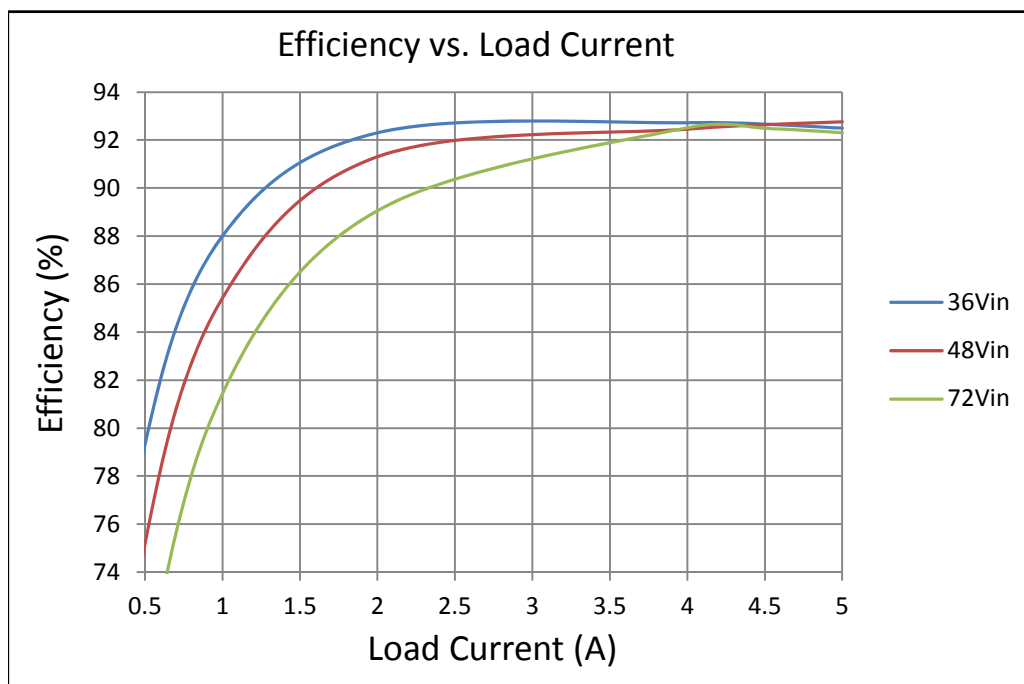
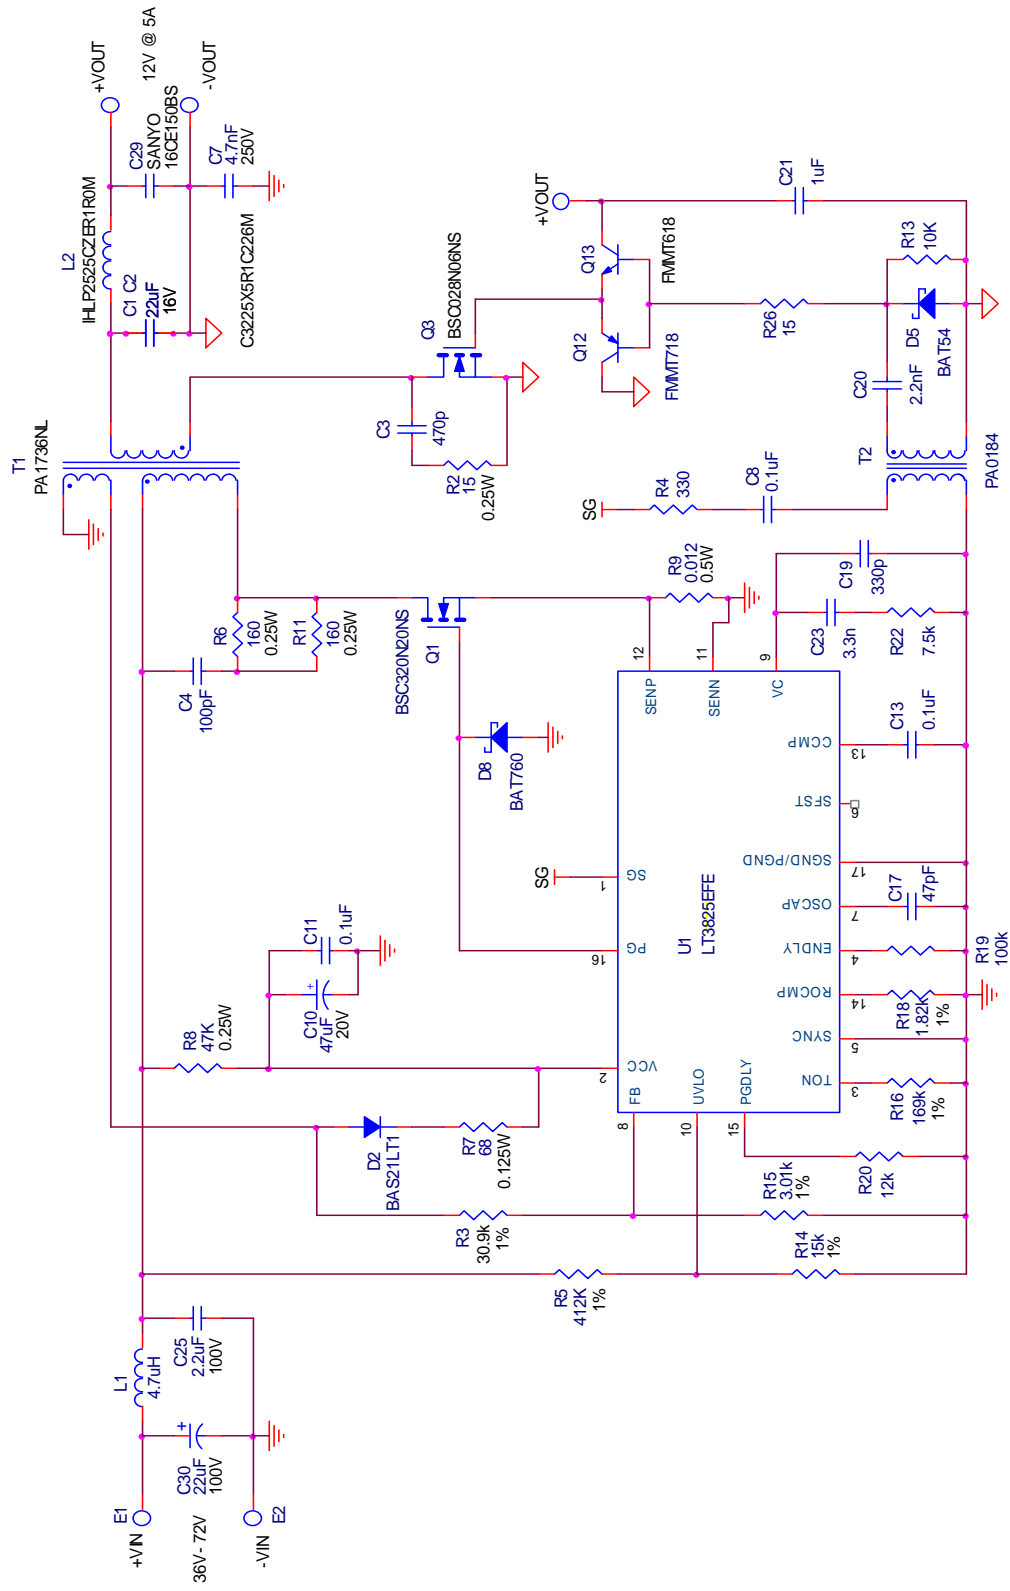

Figure 3. Efficiency
Figure 9. Simplified Schematic
The LT3825 controller exhibits a self-starting capability. When an input voltage is applied, a trickle charge resistor, R8, charges C10 (See Figure 9) to power VCC. Then, the IC begins a controlled soft-start of the output voltage. As this voltage begins to rise, VCC power is quickly taken over by T1, D2, and R7. When the soft-start period is over, the LT3825 then regulates output voltage by observing the pulses across the auxiliary winding of T1 during the flyback time. The Primary Gate drive (PG) and Synchronous Gate (SG) drive is then Pulse Width
Figures 3 through 8 are measured data for a typical DC894C-C. Figures 9 through 11 are schematics and bill of materials